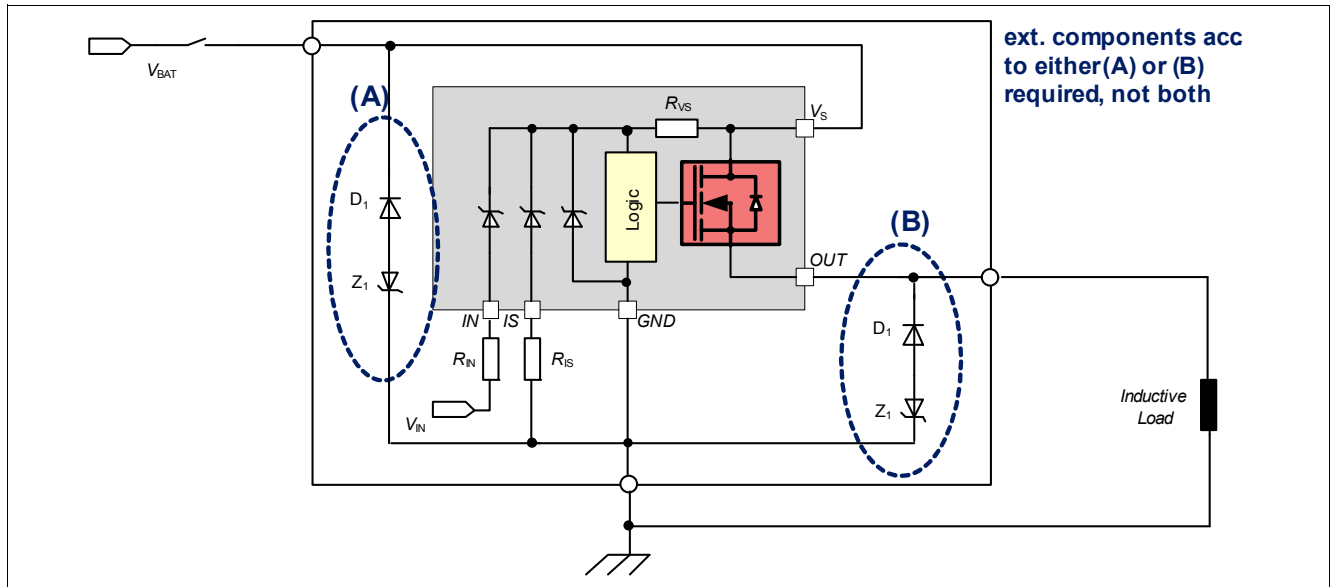
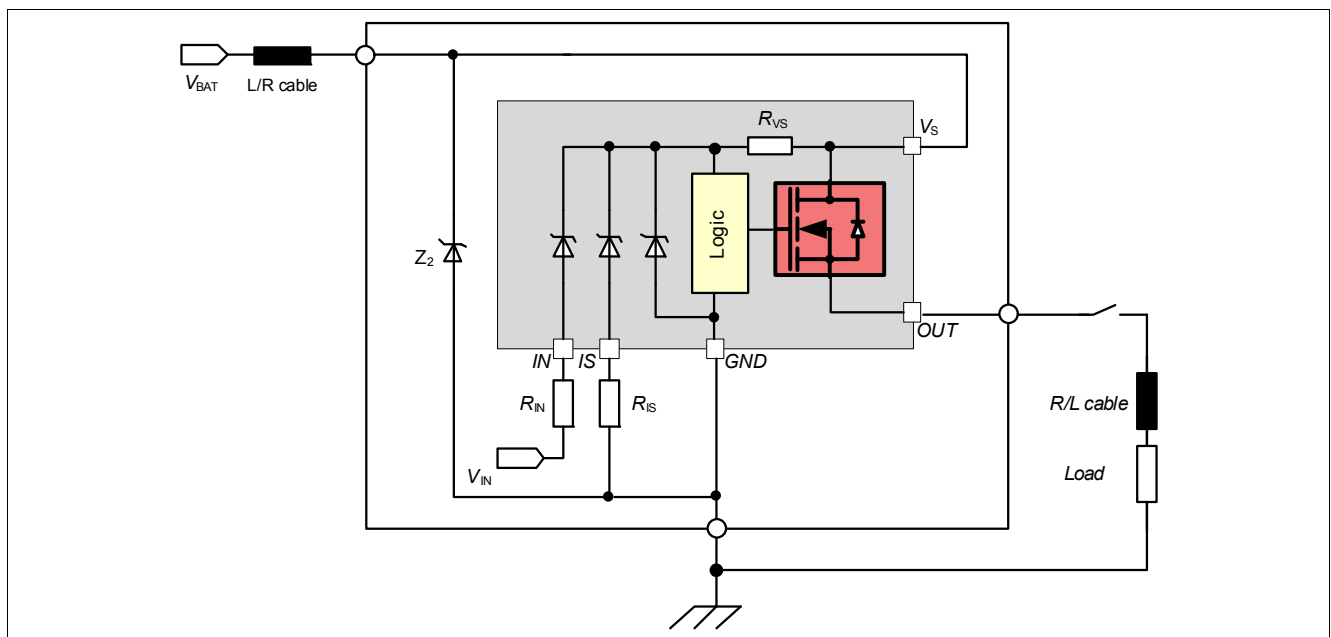

Figure 15 Loss of V_S
Figure 16 Loss of Load
In case of loss of V_S connection with charged inductive loads, a current path with sufficient load current capability has to be provided, to demagnetize the charged inductances. It is recommended to protect the device using a Zener diode together with a diode ($V_{Z1} + V_{D1} < 16\text{ V}$), with path (A) or path (B) as shown in **Figure 15**.
For higher clamp voltages, currents through all pins have to be limited according to the maximum ratings. Please see **Figure 15** and **Figure 16** for details.